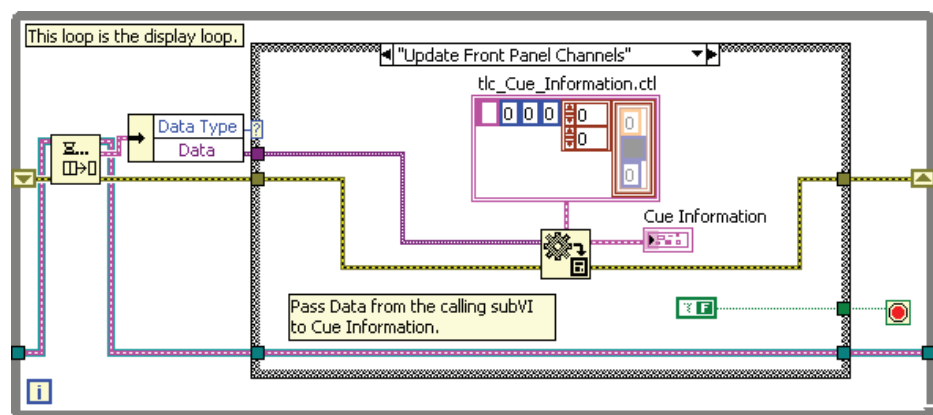

Figure 7-9. Update Front Panel Channels Case
1. Modify the block diagram for the Update Front Panel Channels case of the display loop as shown in Figure 7-9. Use the following items: